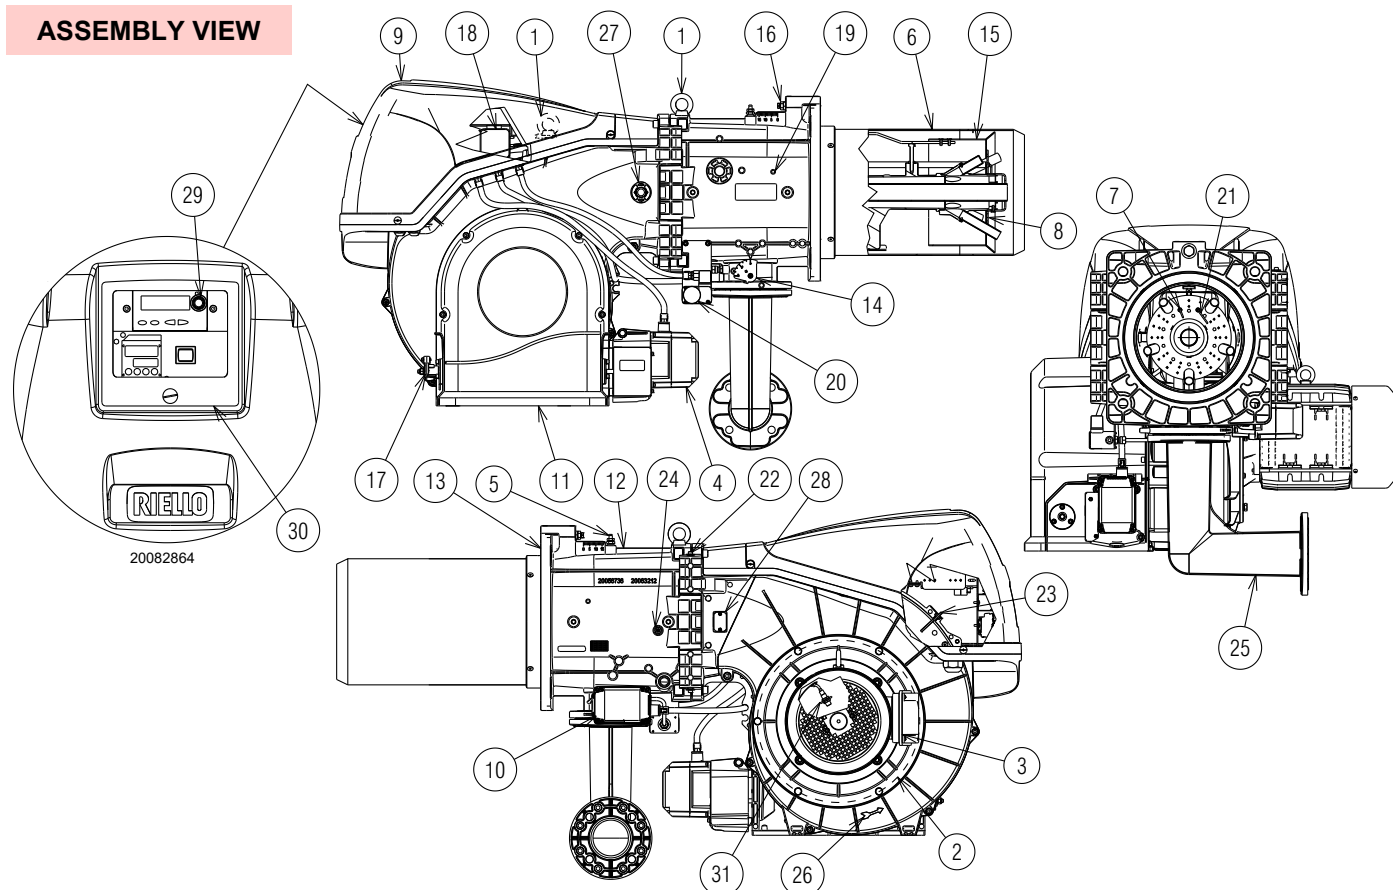

Fig. 5
- (1) Reference conditions: Ambient temperature 20°C - Gas temperature 15°C - Barometric pressure 1013 mbar - Altitude 0 m a.s.l.
(2) Pressure at the test point of the pressure switch 5)(Fig. 5) with zero pressure in the combustion chamber and at maximum burner output.
(3) Sound pressure measured in manufacturer's combustion laboratory, with burner operating on test boiler and at maximum rated output. The sound power is evaluated, in line with the regulations, on a spherical surface centred on the burner and with a radius of 1 metre.